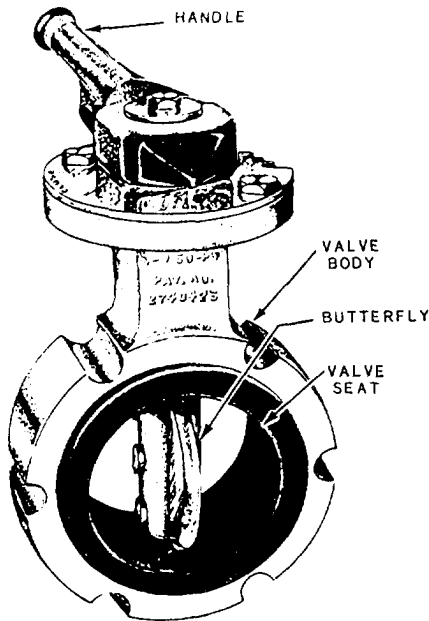

Figure 9-21.—Butterfly valve.
**BUTTERFLY VALVES.**— The butterfly valve, one type of which is shown in figure 9-21, may be used in a variety of systems aboard ship. These valves can be used effectively in freshwater, saltwater, JP-5, F-76 (naval distillate), lube oil, and chill water systems aboard ship. The butterfly valve is light in weight, relatively small, relatively